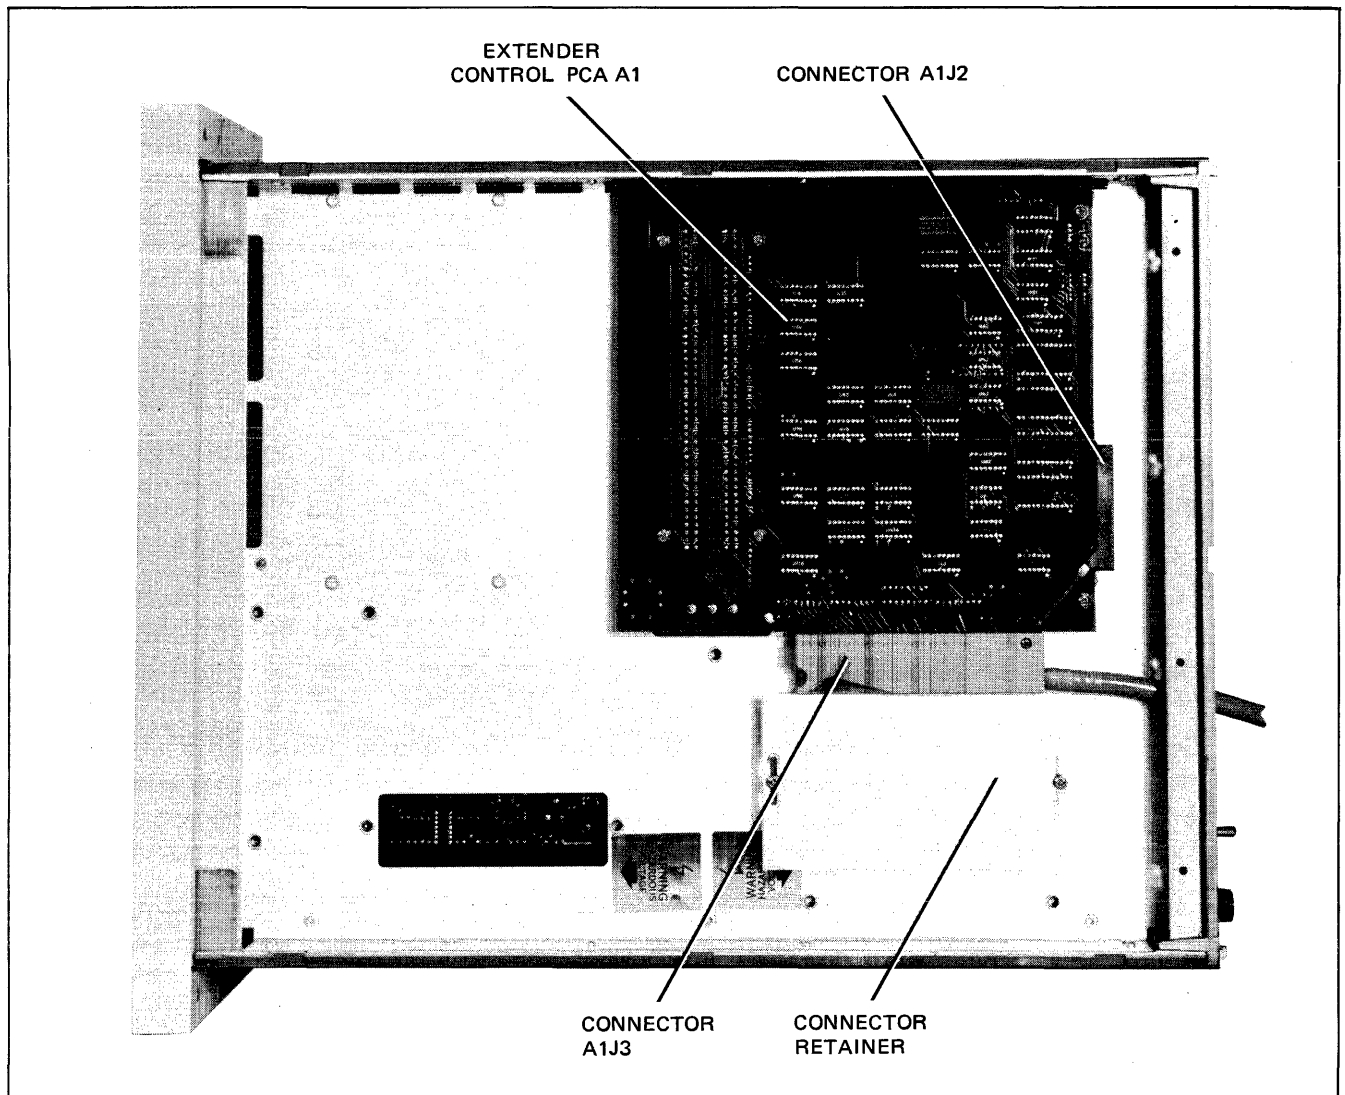

Figure 1-7. HP 12979A I/O Extender Bottom View
- k. Loosen the two screws securing connector retainer to bottom of extender mainframe. Slide retainer away from extender control PCA connector A1J3. (See figure 1-7.)